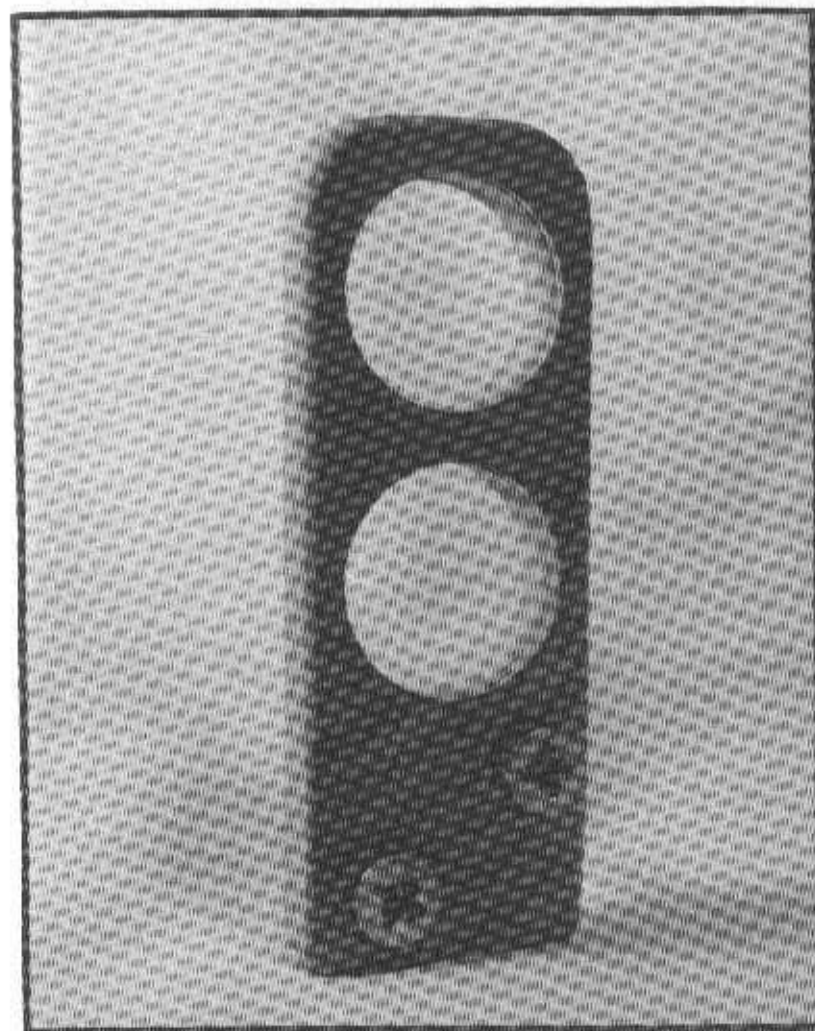

Figure 4-8
12. Cut and drill a piece of hardwood as shown in Figure 4-8. The distance between the two barrel holes equals the thickness of the two collars at the rear end of the barrels. When drilling the barrel holes, back up the hardwood being drilled with a piece of scrap to prevent splitting. The small holes at the bottom are for wood screws which fasten into the end of the foregrip.
Bracing to resist the rearward thrust of the top barrel. (The lug between the collars is the only other gun part performing this function.) "A" is the threaded portion of the end of the barrel. "B" is a slice of a collar, cut with a hacksaw, here used as a retaining nut. "C" is the hardwood piece shown in Figure 4-8. "D" is a metal strap, fastening the barrel down to the stock. "E" is the top barrel itself. "F" is a metal strap which surrounds the hardwood spacer and is screwed to the stock. "G" is the wooden stock.